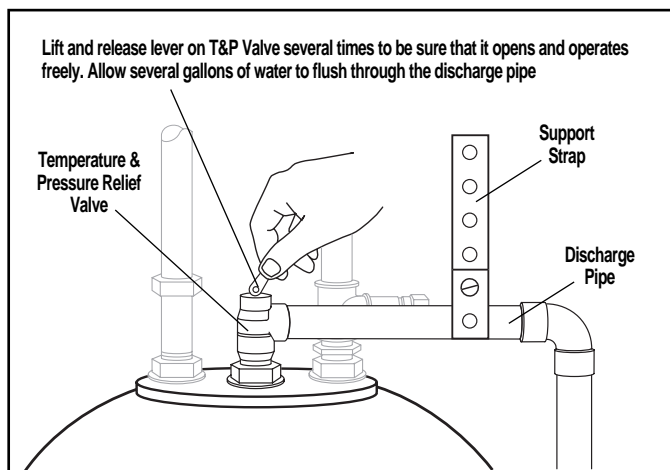

Figure 13 — Manually Operating the Temperature and Pressure Relief Valve
- C. At least once a year, lift and release the lever handle on the temperature pressure relief valve, located on top of the water heater, to make certain the valve operates freely and allow several gallons to flush through discharge line (see Figure 13). Make certain the discharged water is directed to an open drain.